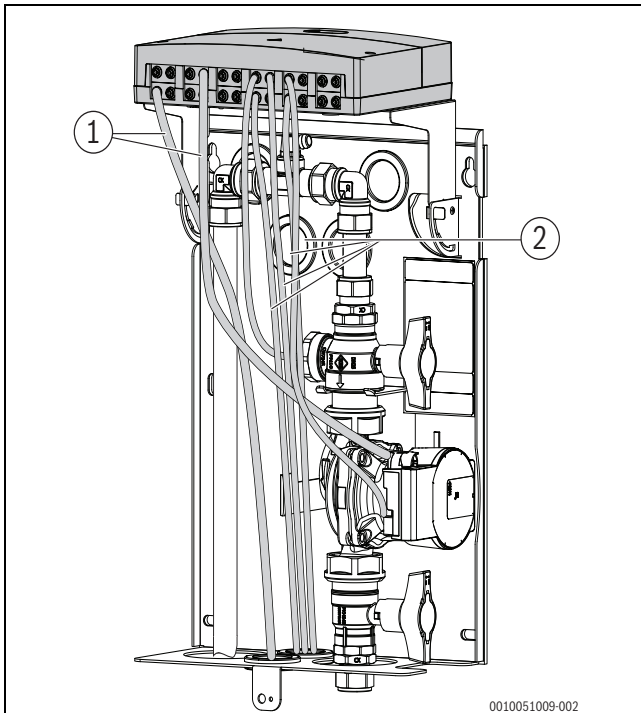

Fig. 27 Route cables through the bottom panel (thermal insulation not shown, hydraulic pipework according to option 2)
- ▶ Route the electrical power cables through the sealing grommets in the bottom panel of the enclosure (→ Fig. 27).